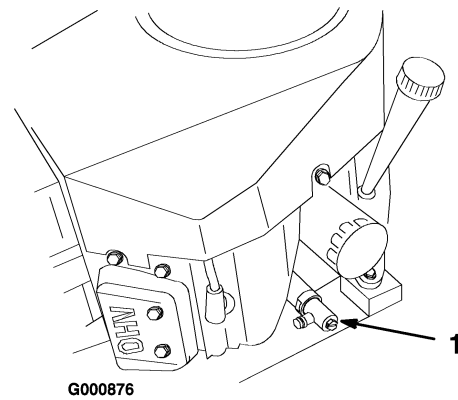

Figure 22
5. Slide the drain hose over the oil drain valve (Figure 22).
6. Place a pan below the oil drain hose. Use either a flat screw driver, 3/8 inch (10 mm) wrench to open valve (Figure 22).
7. Rotate valve end counterclockwise to open valve (Figure 22).
8. When oil has drained completely, rotate valve end clockwise to close the valve (Figure 22).
10. Clean around the oil dipstick and unscrew the cap (Figure 22).
11. Slowly pour approximately 80% of the specified oil into the filler cap (Figure 22). Refer to Servicing the Engine Oil, in Engine Maintenance, page 22.